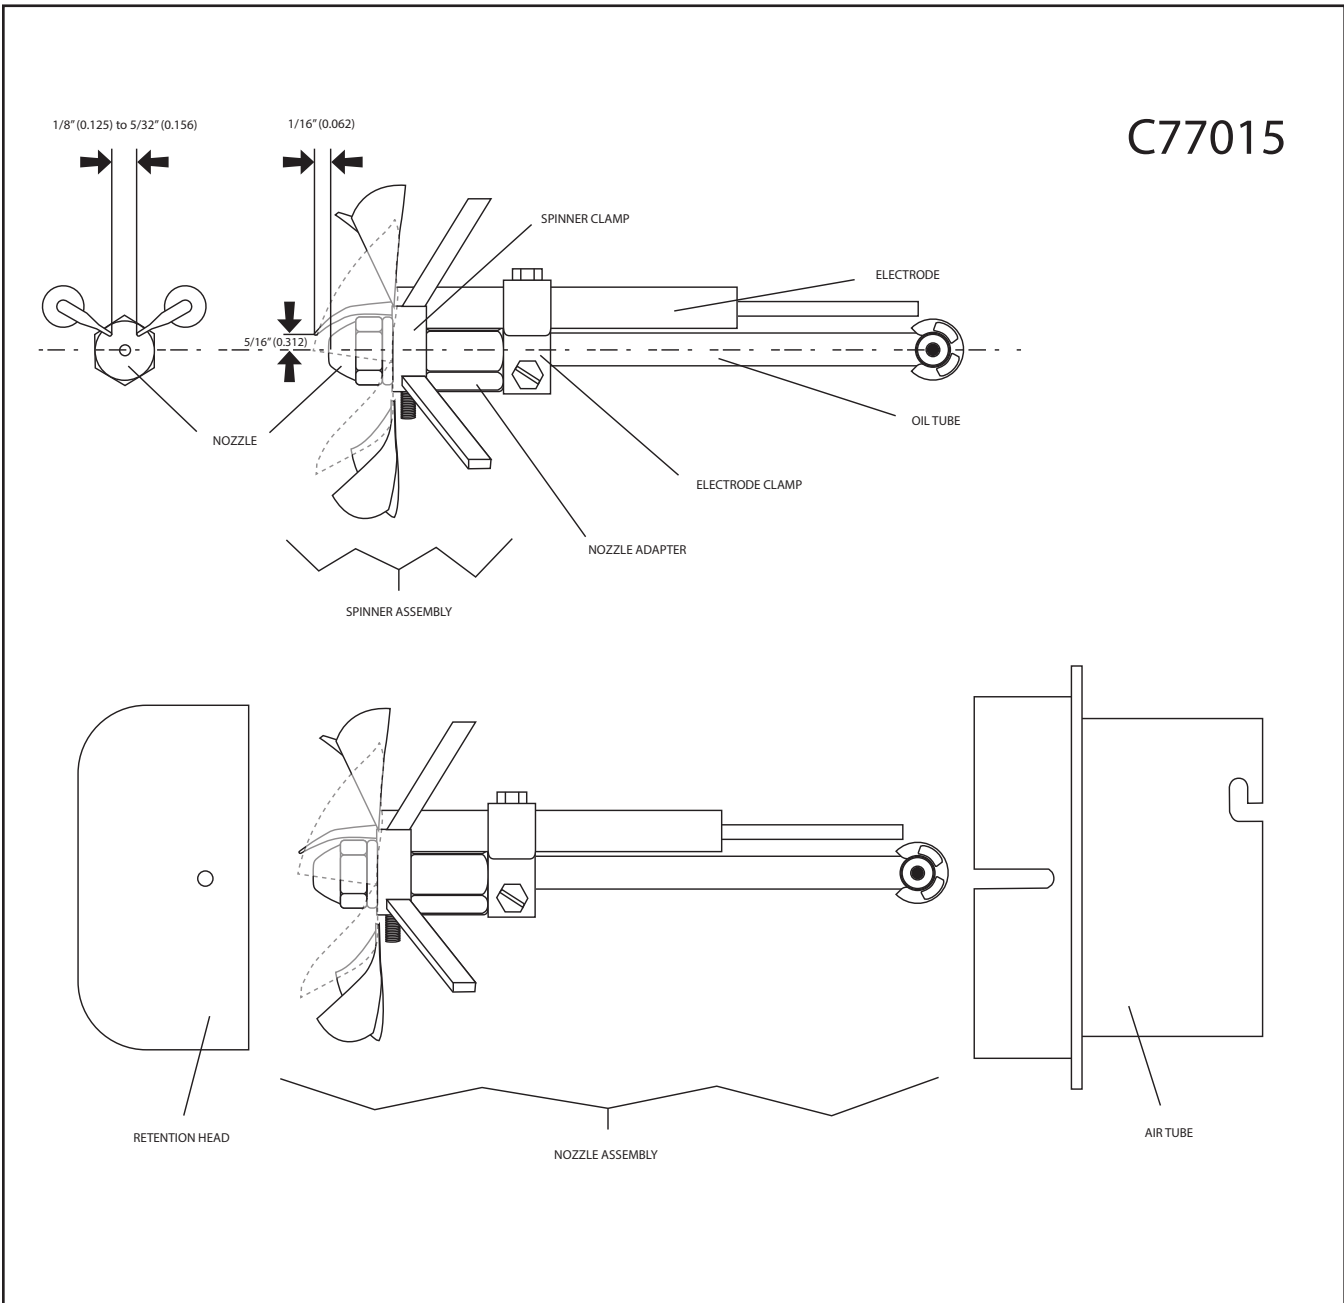

FIGURE 2A: INSERTING / REMOVING NOZZLE HEAD ASSEMBLY
3. Remove the retention head (Figure 2A).
6. Set electrodes to proper gap, using Carlin electrode gauge (see Figure 2A).